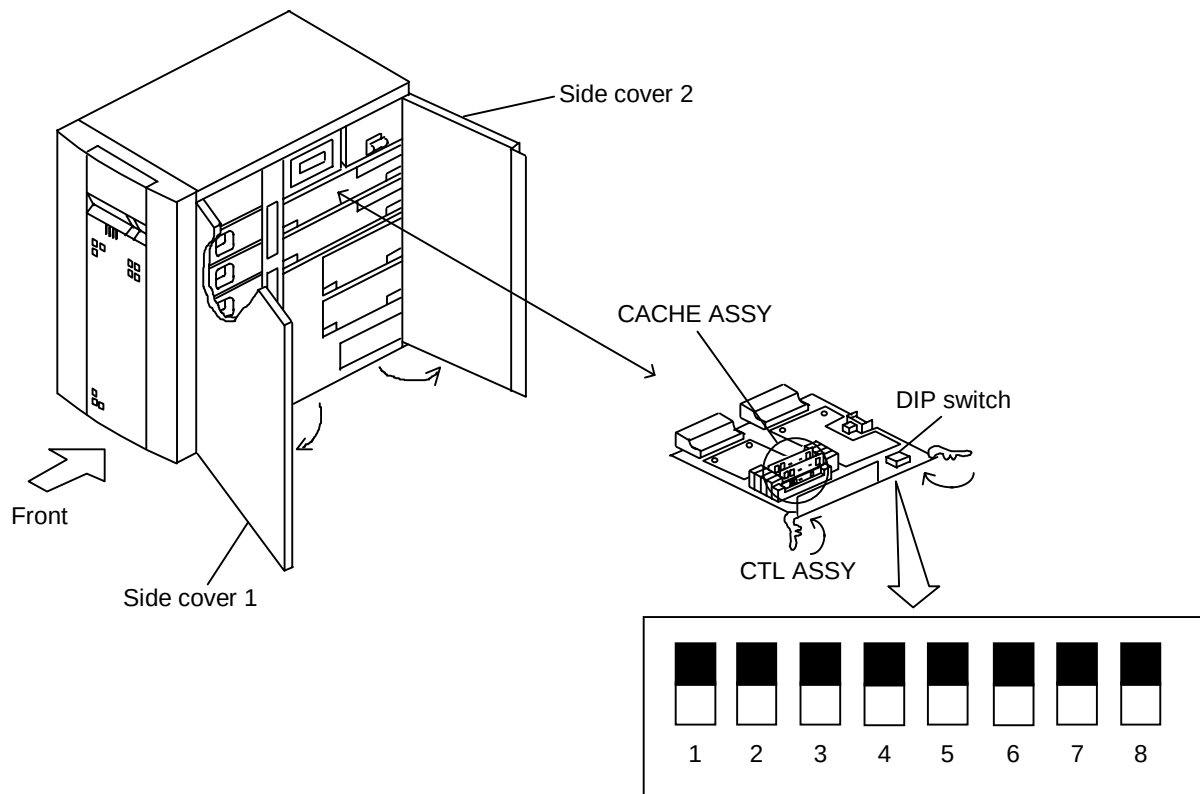

Figure 2.5.1 Installing the CTL ASSY
- (3) Open the side covers.
- (4) Install a CACHE ASSY in the additional CTL ASSY. (Mount a CACHE ASSY of the same capacity in the same corresponding slot of the optional CTL ASSY as those of the already installed CTL ASSY respectively as shown on MK-OPTION0160.)
- (5) Insert the CTL ASSY in a predetermined position with the right and left levers opened. Push the right and left levers in the arrow-marked ierection (→) at the same time. (See Figure 2.5.1.)
- (6) Install the additional I/F ADAPTER ASSY. (See Figure 2.5.1.) Set JP1 and JP2 on the I/F ADAPTER to the same condition as the pre-installed I/F ADAPTER ASSY.